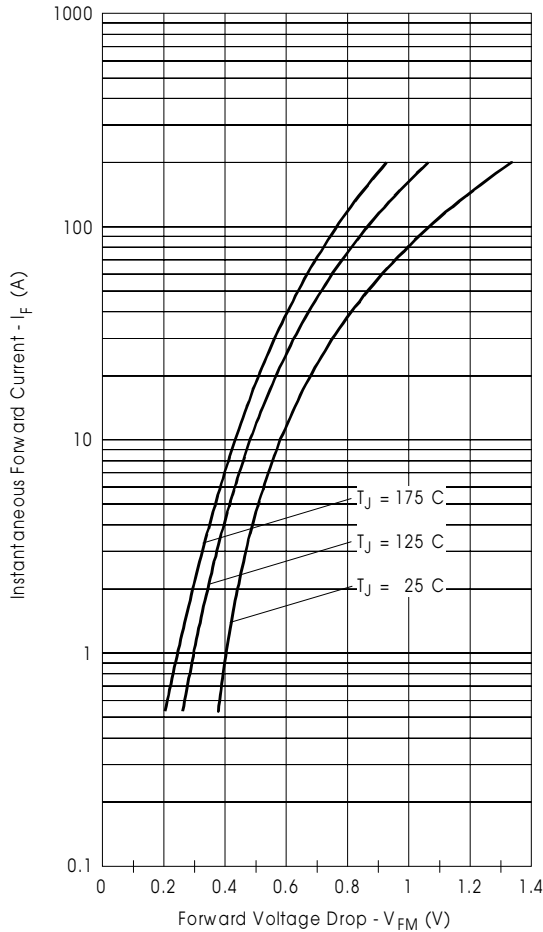

Fig. 1 - Max. Forward Voltage Drop Characteristics (Per Leg)
| V_{FM} Max. Forward Voltage Drop (Per Leg) * See Fig. 1 (1) | 0.81 | V | @ 40A |